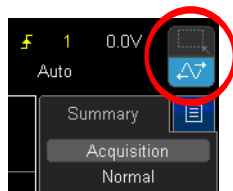

Figure 10 Blue touchscreen option icon
- 9 Rotate the Horizontal position knob to move the waveform left and right. Alternatively, tap the icon shown below in **Figure 10**, until the lower half is colored blue. You can now swipe your finger across the waveform to move it left and right.